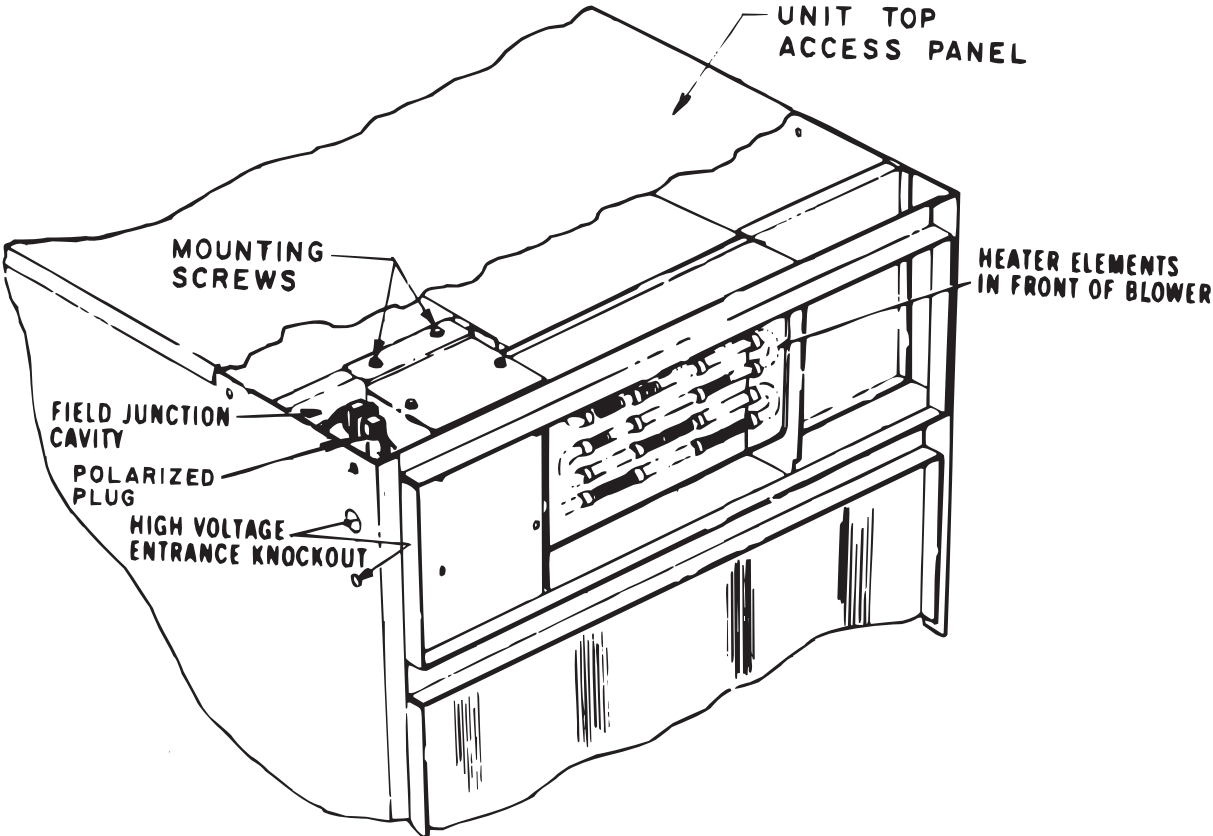

Figure 2. Typical Single Element Heater Installation
3. Remove the appropriate high voltage entrance knockout on the side panel of the unit. See Figure 2.
4. Slide the heater assembly into the cavity between the blower scroll and the discharge air duct flanges. See Figure 2.
5. Align the two (2) holes in the top flange of the control box with the two (2) holes in the top flange of the baffle plate. Secure with two (2) screws provided with the heater. See Figure 2.
9. Replace the heater control box cover with the two (2) previously removed screws.
8. Align the two (2) holes in the top flange of the control box with the two (2) holes in the top flange of the baffle plate. Secure with two (2) screws provided with the heater. See Figure 2.